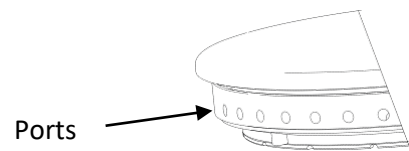

Figure 9
2. Thoroughly clean with soap and water. Ensure all burner ports are clean and free from food or cleaning material debris. **(Fig 9)**